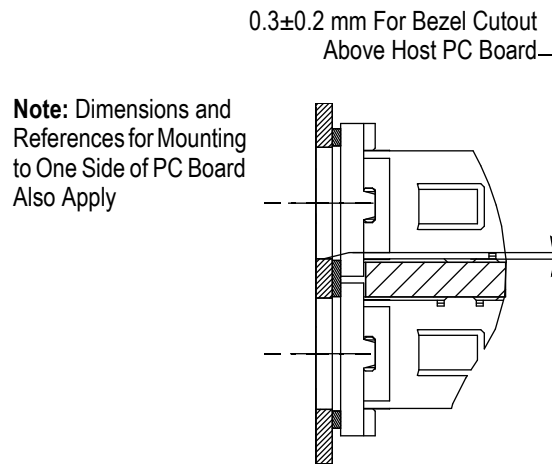

Figure 5
7. Mount the cage assembly (with the host pc board) onto the bezel. Make sure that the opening of the cage assembly is centered over the cutout of the bezel and that the front flange is against the EMI gasket. See Figure 5.
**CAUTION** To avoid interference with the insertion and extraction of the transceiver, IT IS IMPORTANT that the bezel and pc board be positioned in relation to each other according to Figure 5.